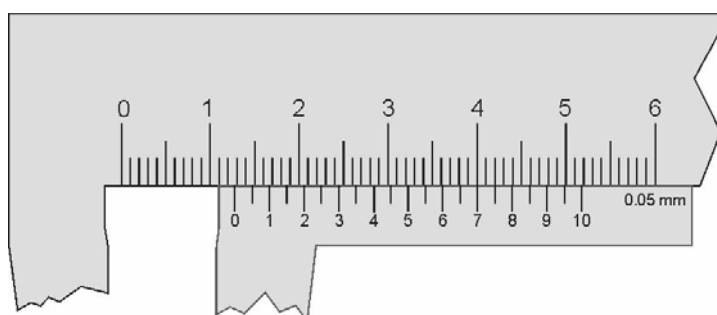

Fig. 7 Another reading on a vernier caliper.
6. The least count of the vernier caliper in **figure 7** is 0,05 mm. What is reading in this case?